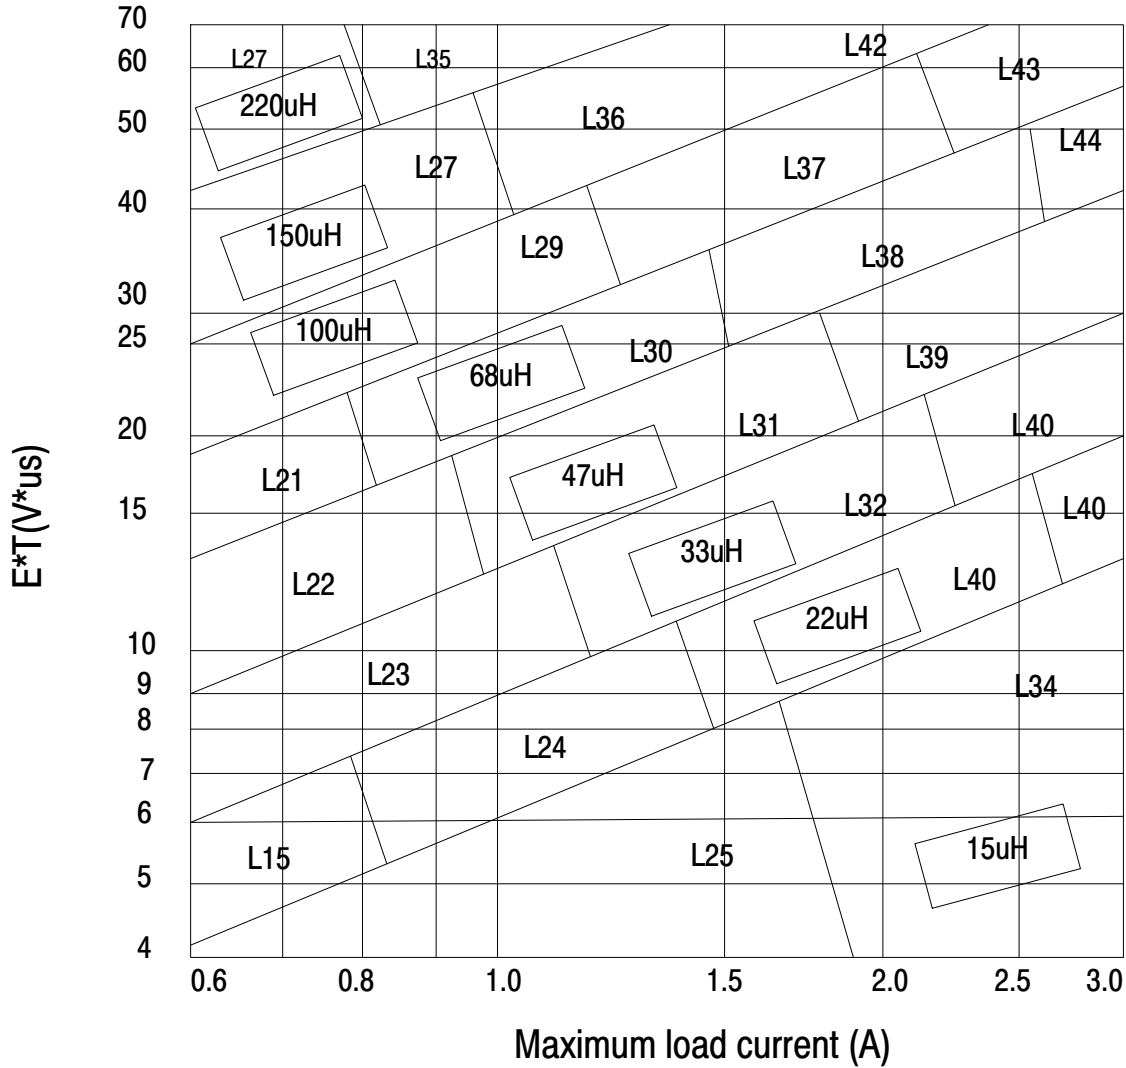

Figure 18. Inductor Value Selection Guides (For Continuous Mode Operation)
4. Inductor Selection (L1) A. Use the following formula to calculate the inductor Volt x microsecond [V x μs] constant: $E \times T = (V_{IN} - V_{OUT} - V_{SAT}) \times \frac{V_{OUT} + V_D}{V_{IN} - V_{SAT} + V_D} \times \frac{1000}{150 \text{ kHz}} (V \times \mu s)$ B. Match the calculated E x T value with the corresponding number on the vertical axis of the Inductor Value Selection Guide shown in Figure 18. This E x T constant is a measure of the energy handling capability of an inductor and is dependent upon the type of core, the core area, the number of turns, and the duty cycle. C. Next step is to identify the inductance region intersected by the E x T value and the maximum load current value on the horizontal axis shown in Figure 18. D. Select an appropriate inductor from Table 3. The inductor chosen must be rated for a switching frequency of 150 kHz and for a current rating of $1.15 \times I_{Load}$. The inductor current rating can also be determined by calculating the inductor peak current: $I_{p(max)} = I_{Load(max)} + \frac{(V_{in} - V_{out}) t_{on}}{2L}$ where t_{on} is the "on" time of the power switch and $t_{on} = \frac{V_{out}}{V_{in}} \times \frac{1.0}{f_{osc}}$	4. Inductor Selection (L1) A. Calculate E x T [V x μs] constant: $E \times T = (12 - 5 - 1.5) \times \frac{5 + 0.5}{12 - 5 + 0.5} \times \frac{1000}{150 \text{ kHz}} (V \times \mu s)$ $E \times T = (5.5) \times \frac{5.5}{7.5} \times 6.6 (V \times \mu s)$ B. E x T = 27 [V x μs] C. $I_{Load(max)} = 3.0 \text{ A}$ Inductance Region = L40 D. Proper inductor value = 33 μH Choose the inductor from Table 3.
To simplify the inductor selection process, an inductor selection guide for the LM2596 regulator was added to this data sheet (Figure 18). This guide assumes that the regulator is operating in the continuous mode, and selects an inductor that will allow a peak-to-peak inductor ripple current to be a certain percentage of the maximum design load current. This percentage is allowed to change as different design load currents are selected. For light loads (less than approximately 300 mA) it may be desirable to operate the regulator in the discontinuous mode, because the inductor value and size can be kept relatively low. Consequently, the percentage of inductor peak-to-peak current increases. This discontinuous mode of operation is perfectly acceptable for this type of switching converter. Any buck regulator will be forced to enter discontinuous mode if the load current is light enough.